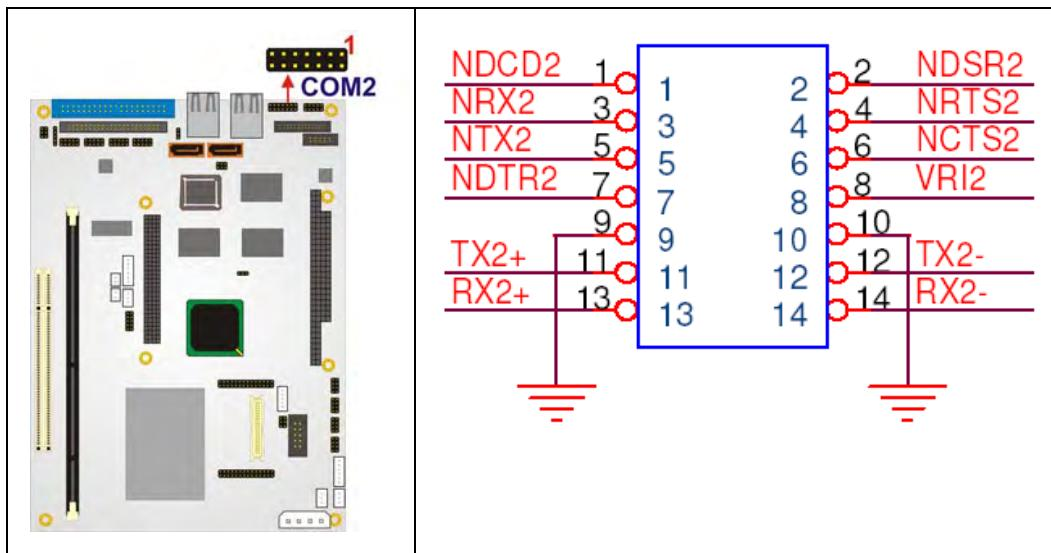

Figure 3-26: RS-232/422/485 Serial Port Connector Location
- CN Location:** See **Figure 3-26**